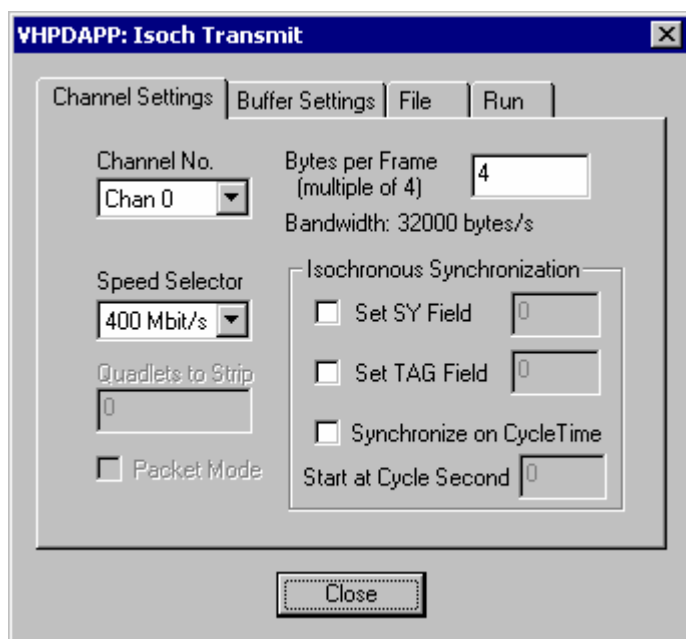

Figure 30: Isochronous setup for transmitting data (VHPD demo)
- Set "Bytes per frame to" 4 as shown in Figure 30